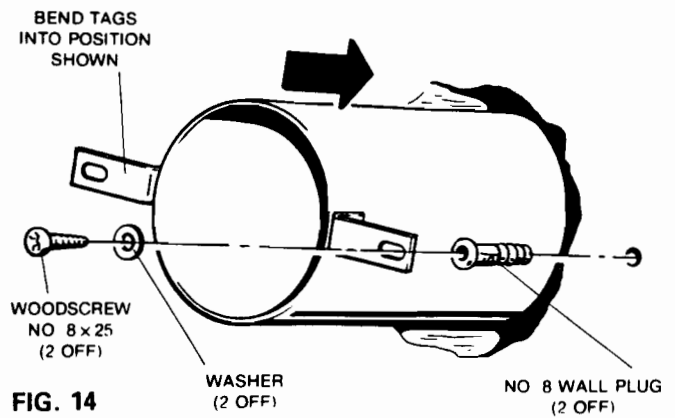

FIG. 14
- From the terminal assembly pack remove the wall liner and the two wall liner mounting screws, washers and wall plugs contained in the polythene bag. Measure the wall thickness and cut the wall liner to suit, remove the sharp edges. Bend fixing tag into position shown (see Fig. 14).
- e) Insert the wall liner with the seam uppermost and drill the two No. 8 × 30mm wall liner fixing holes and insert the two No. 8 wall plugs (see Fig. 14).
- f) Secure with the two screws and washers provided (see Fig. 14).